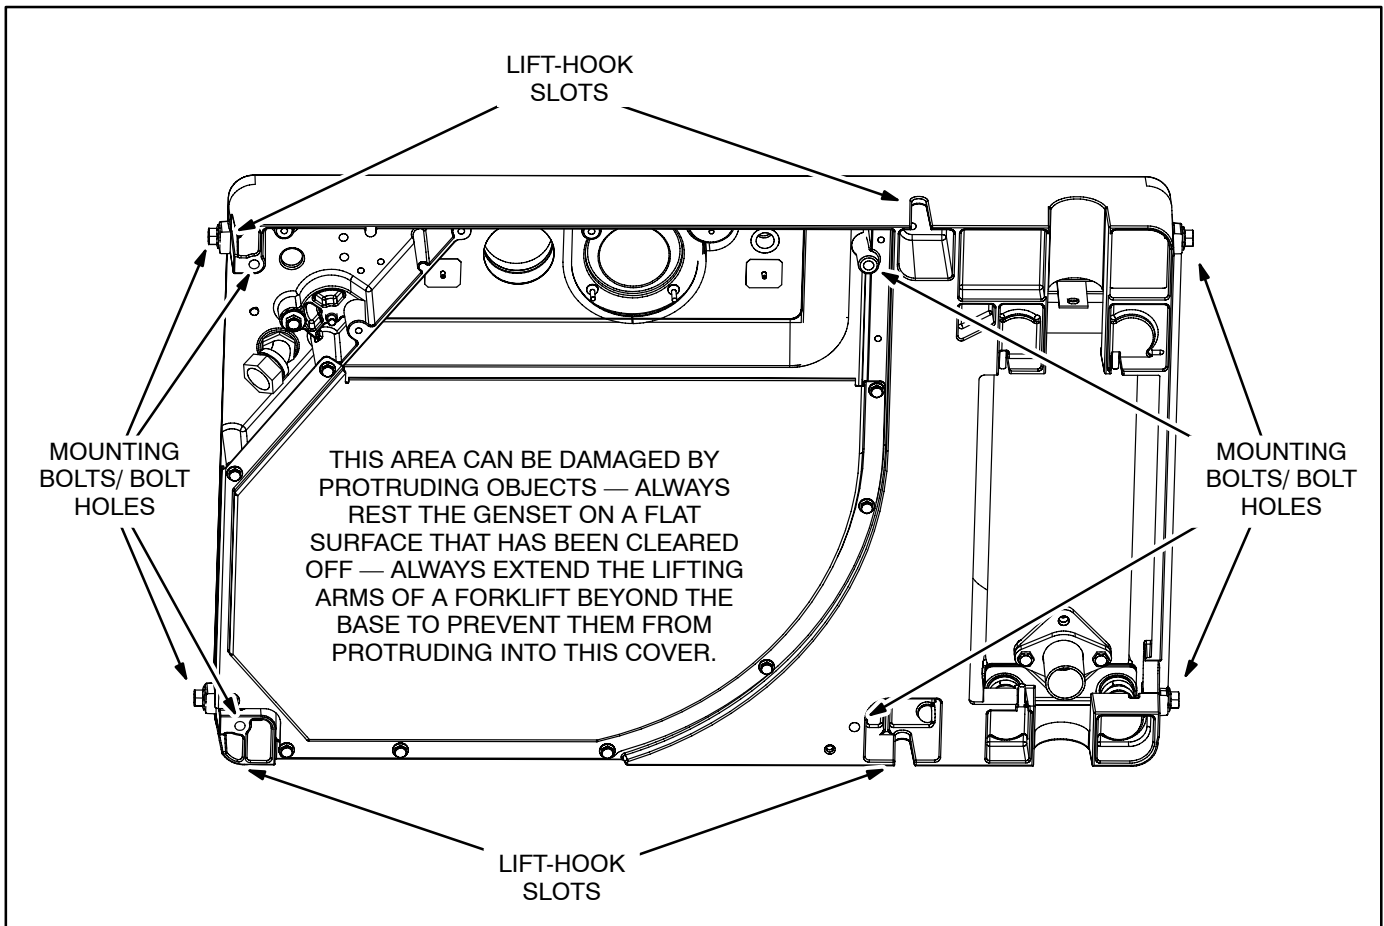

FIGURE 4-1. GENSET LIFT-HOOK SLOTS—MOUNTING BOLT HOLES—AREA THAT CAN BE DAMAGED
**Below-Floor Mounting:** Four 3/8 inch bolts into the ends or bottom of the base (Figure 4-1) are used to secure the genset to special brackets from the vehicle floor or frame or to frame members underneath (Figure 4-1). *The area above the genset should have a vapor-tight, fire-resistive barrier between the genset and coach interior.*
**Above-Floor, Compartment Mounting:** Four 3/8 inch bolts into bottom of the base (Figure 4-1) are used to secure the genset to the floor of the compartment. *The compartment should have a vapor-tight, fire-resistive barrier that seals off the genset from the coach interior.*
Figure 4-1 illustrates the four lift-hook slots for genset lifting. A lifting rig must spread the hook straps such that they do not crush or bend parts such as the control box, air filter and fuel lines while lifting. See Section 13. *Specifications* regarding the weight